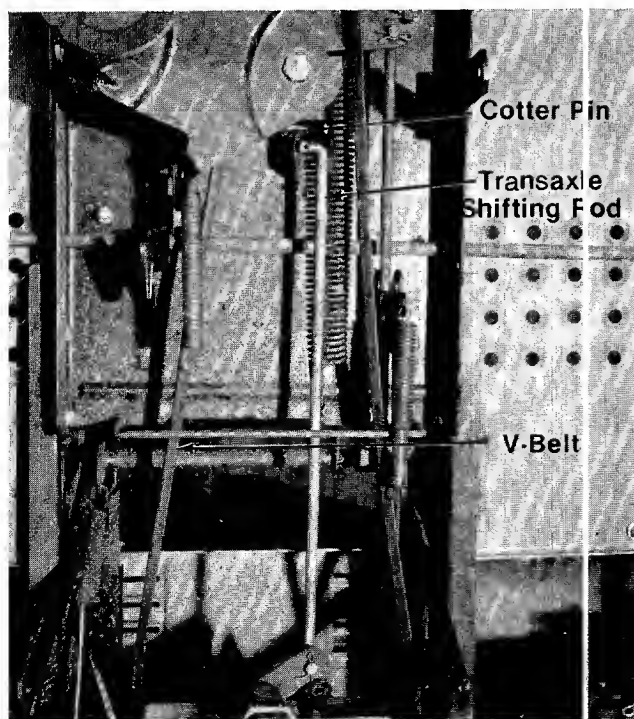

FIGURE 21.
10. Remove the cotter pin from the transaxle shifting rod and pull it out of the bracket. See figure 21.